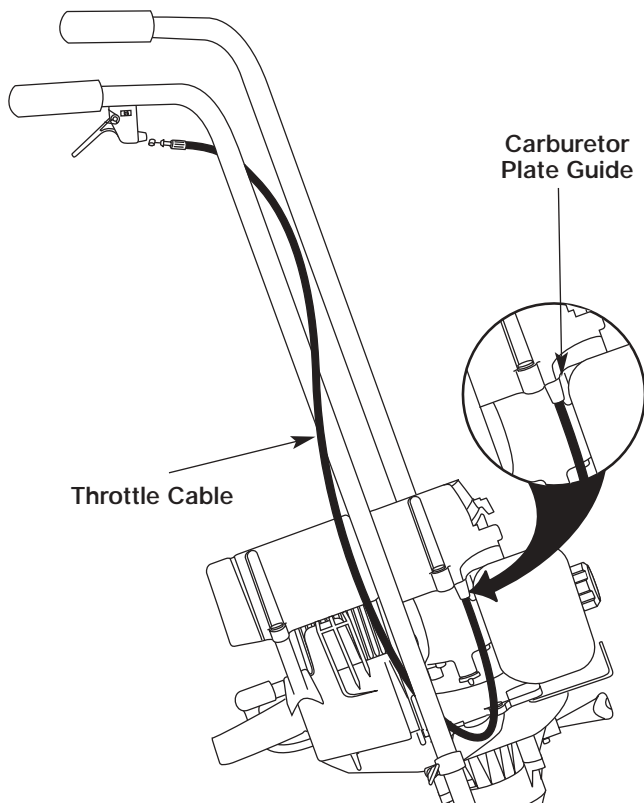

Figure 9
1. Wrap the throttle wire once around the handlebar. See Figure 9.
NOTE: Ensure the throttle cable is fitting into the guide at the carburetor plate on the engine. If it does not, the throttle will not work properly. See Figure 9.